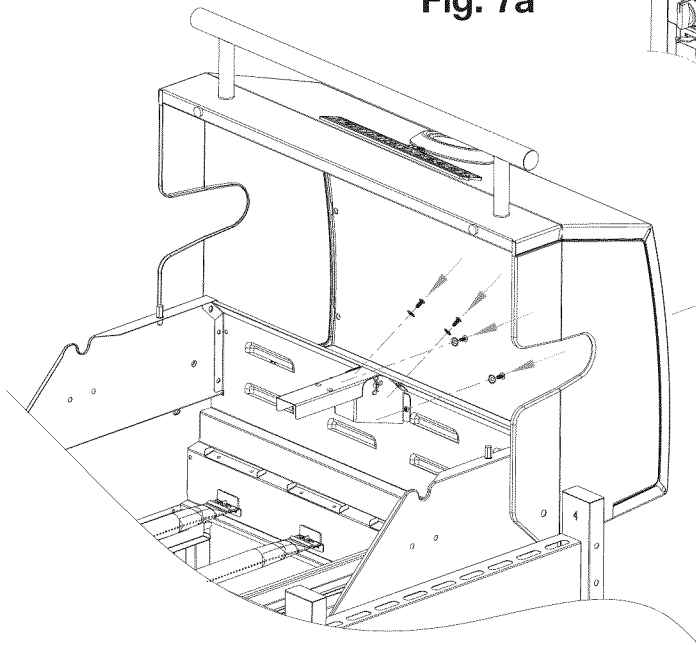

Fig. 7b
2. Carefully lower the grill head onto the cart. Open lid and attach head to cart with four (4) M6 x 13 screws and M6 compression washers.
3. Attach warming basket bracket to the back firebox with four (4) M4 x 10 screws and four (4) M4 compression washers as shown in **Fig. 7b**.